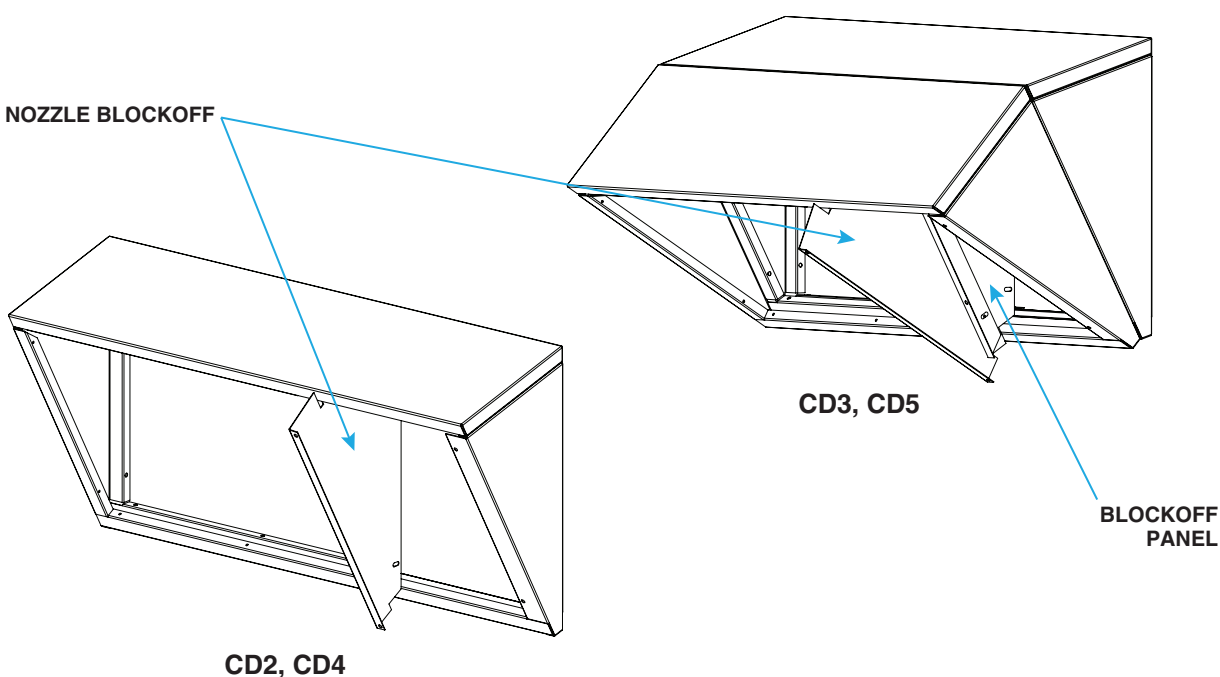

Figure 1. Gas-Fired Unit Heater Downturn Nozzle Assemblies
1. Assemble top and side panels of downturn nozzle assembly (see Figure 1):
6. If installing option CD3 or CD5, position second assembled nozzle section in outlet of nozzle already assembled. Secure second nozzle section to first nozzle section using screws from kit to create downturn with two sections (see Figure 1).
- c. Slide nozzle bottom (see Figure 1) into place so that it rests on small tabs on each side. Align holes and secure nozzle bottom to face plate using screws from kit.
- b. Position nozzle blockoff (see Figure 1) so that holes align and secure to face plate using screws from kit.
- c. If installing option CD3 or CD5, secure blockoff panel (see Figure 1) to nozzle blockoff.